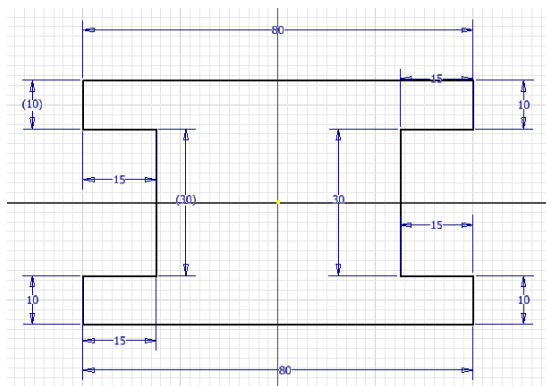

Figure 2-68 Sketch of the outer loop
- Draw the outer loop by specifying the length and angle lines by using the Dynamic Input method, refer to Figure 2-68.
16. Right-click to display the Marking Menu and choose **OK** from it to exit the **Line** tool. The sketch of the outer loop is shown in Figure 2-68. You need to arrange the positions of dimensions in the sketch by dragging them to view the sketch clearly.
The angular dimensions have not been shown in Figures 2-68 and 2-69 for clarity of sketches.